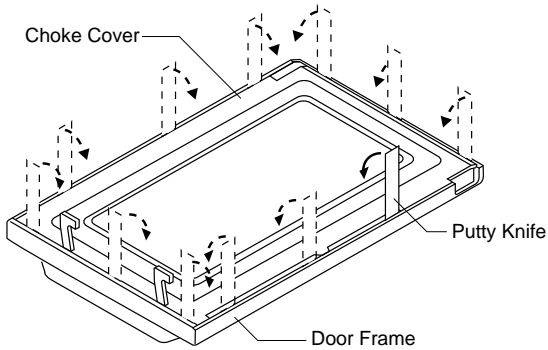

Figure C-6. Door Disassembly
gap between the choke cover and door frame as shown in Figure C-6 to free engaging parts.
4. Pry the choke cover by inserting a putty knife as shown in Figure C-6.